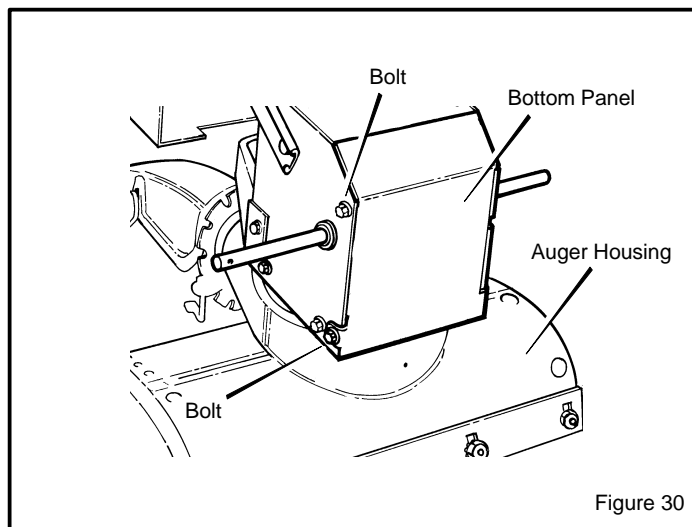

Figure 30
2. Loosen the **bolts** on each side of the **bottom panel** (see Figure 30).
13. Install the **bottom panel** (see Figure 30).